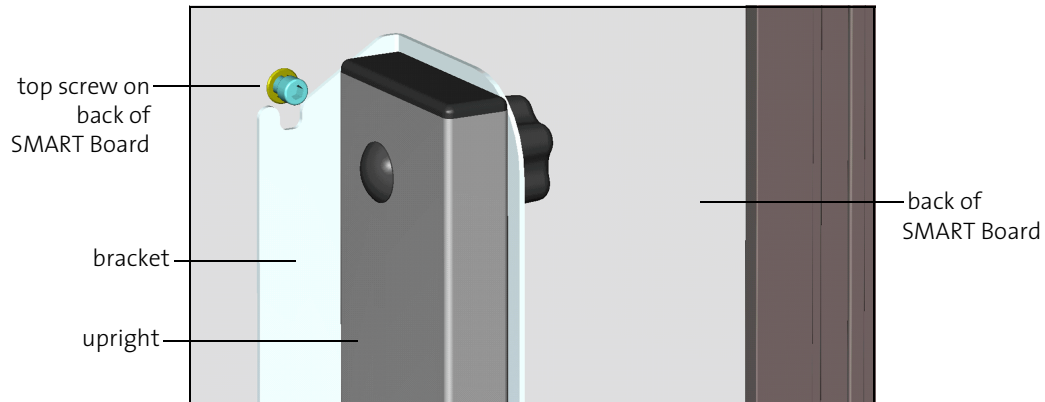

Figure 1-7 Attaching SMART Board
2. Lift the SMART Board, and hook the heads of the two screws inserted above into the notches at the top of the mounting brackets (Figure 1-7).